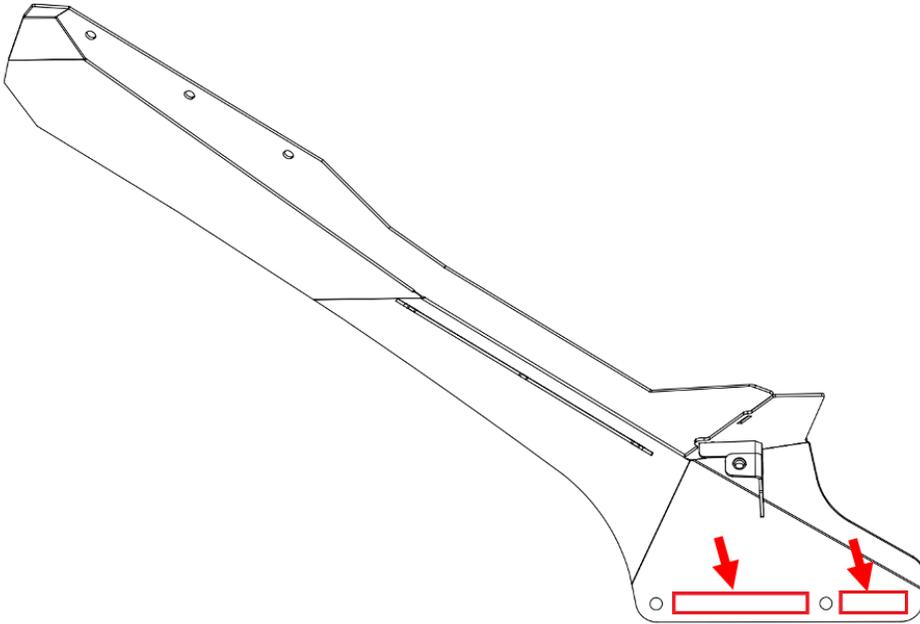

Figure 16.
16. Install the 1" neoprene rubber strip to the inside of both vicowl arms as shown in Figure 16.